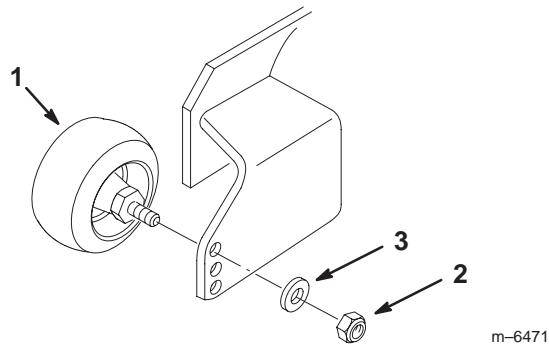

Figure 23
1. After adjusting height-of-cut, check the gage wheels so that there is a minimum of 3/8 inch (10 mm) clearance above the ground (Figures 23, 24, and 25).
2. If adjustment is needed, remove the bolt, washer(s) and nut (Figures 23, 24, and 25).
3. Select a hole position so the gage wheels are a minimum of 3/8 inch (10 mm) off the ground (Figures 23, 24, and 25).
4. Install the bolt, spacers, washers and nut (Figures 23, 24, and 25).